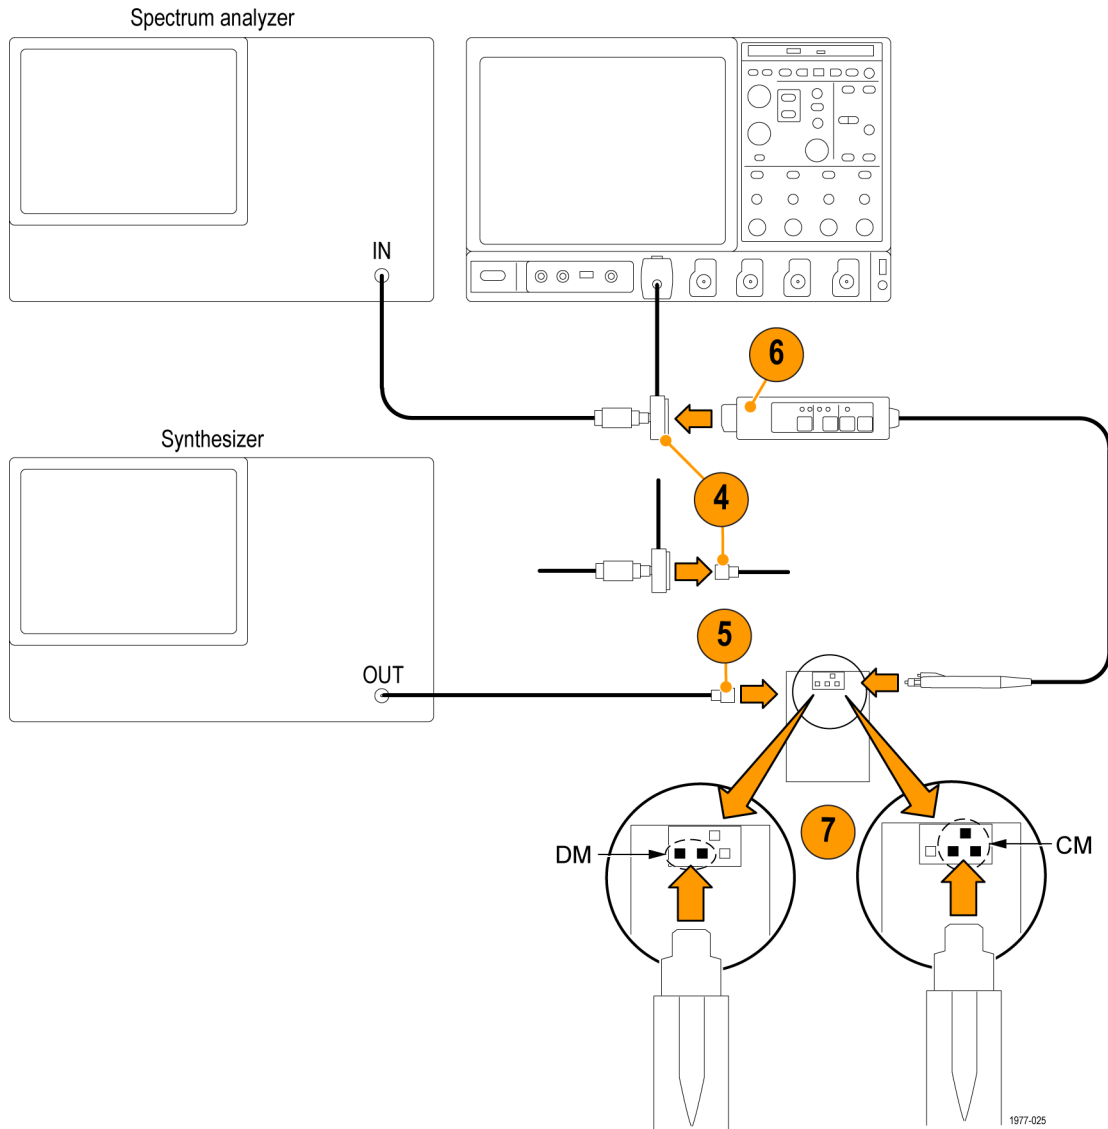

Figure 16: Probe tip test connections
7. Connect the probe tip to the DM pins of the BNC-to-probe tip adapter. (See Figure 16.)